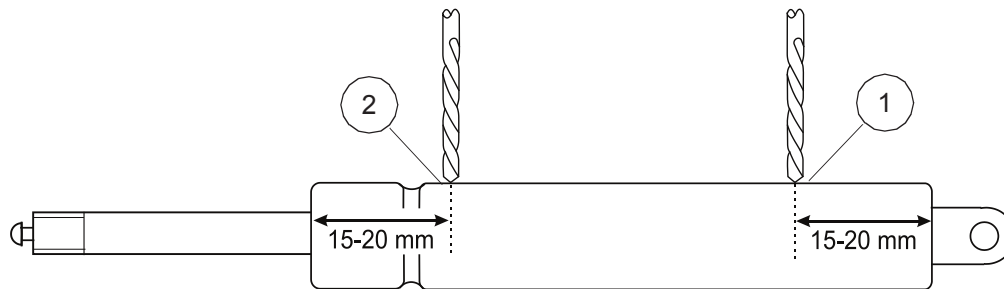

Figure 30: Disposal of gas spring
2. Clamp the gas spring in a vice and drill a 3mm diameter hole, 15-20mm from the end of the gas spring housing (see Fig 30, Item 1). Screen off the drilling point as metal chips and oil may be ejected due to the high internal pressure. Then drill a second hole at position 2 as shown. The holes should be drilled to a depth of approximately 10mm.